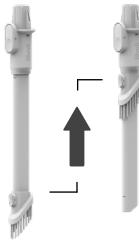

Figure 1.3
- Press button to slide bristles up/down and switch between crevice tool and dusting brush. [Figure 1.3]